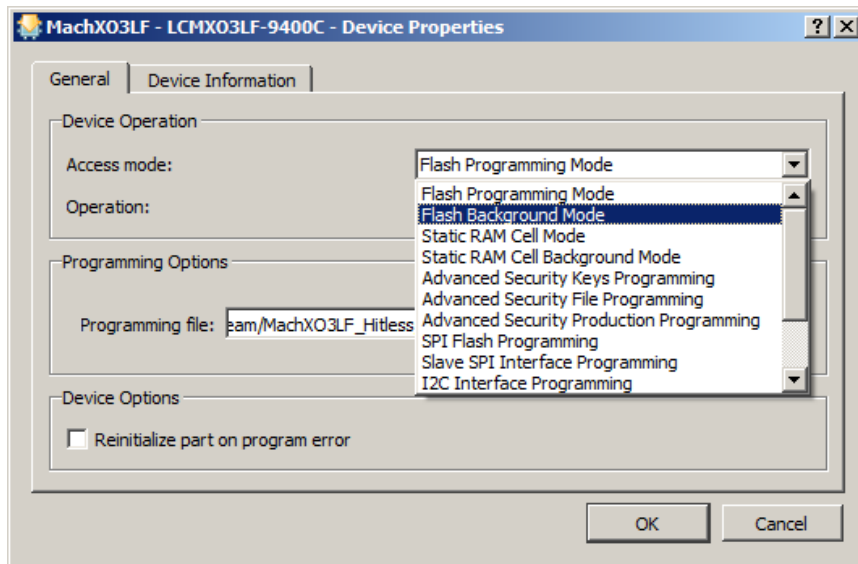

Figure 6.15. Access Mode Options
- From the Access Mode drop-down list select **Flash Background Mode** as shown in Figure 6.15.